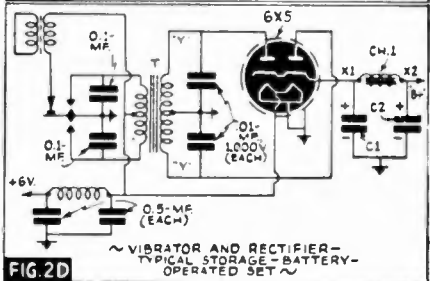

FIG. 2D ~ VIBRATOR AND RECTIFIER-TYPICAL STORAGE-BATTERY-OPERATED SET ~
- (d) A Vibrator Power Pack, per Fig. 2D.
Secondary circuits of Vibrator Power Supplies are also treated in the same manner, an examination of Fig. 2D indicating that the circuit from the secondary of the transformer is practically the same as that of a transformer-rectifier circuit.